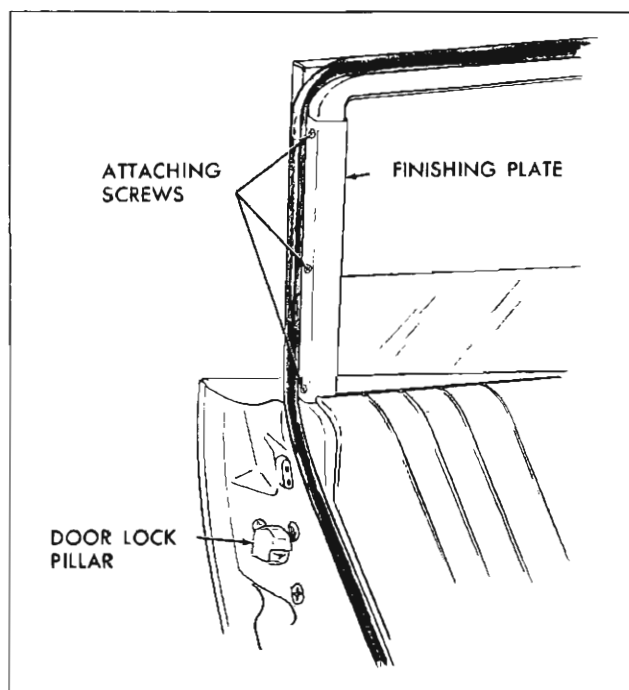

Fig. 55—Rear Door Belt Support Finishing Plate—35 and 45 Styles
3. Remove screws securing door belt trim support rear finishing plate (three) and remove plate (fig. 55).